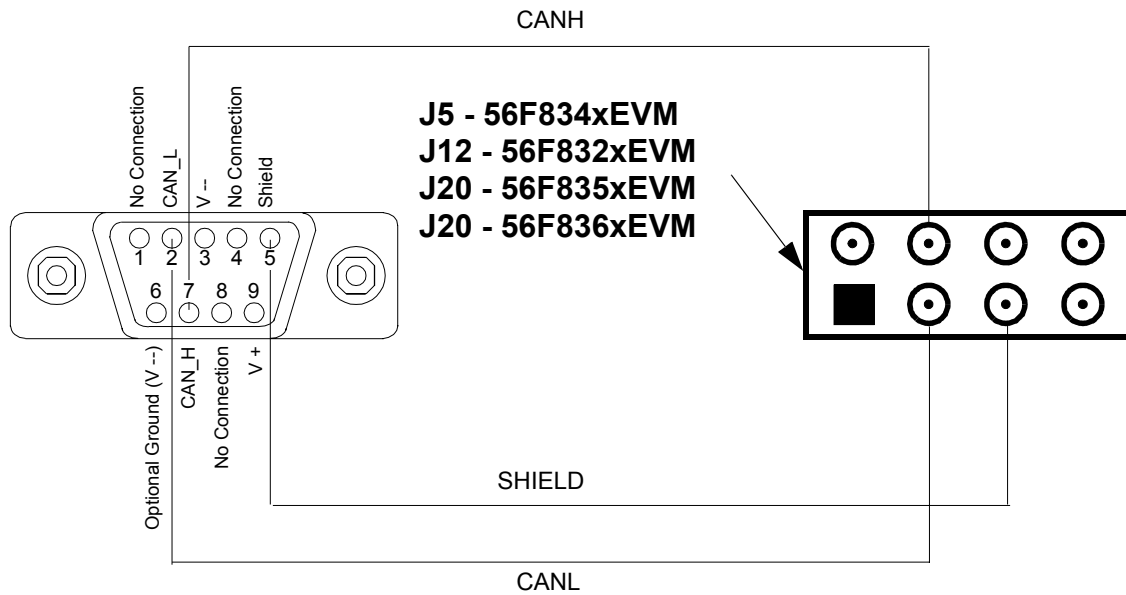

Figure 1-9. Connections Between the 56F83xxEVM (Jumper J5/J12) and PC Host
- Connect the CAN bus as shown in Figure 1-9